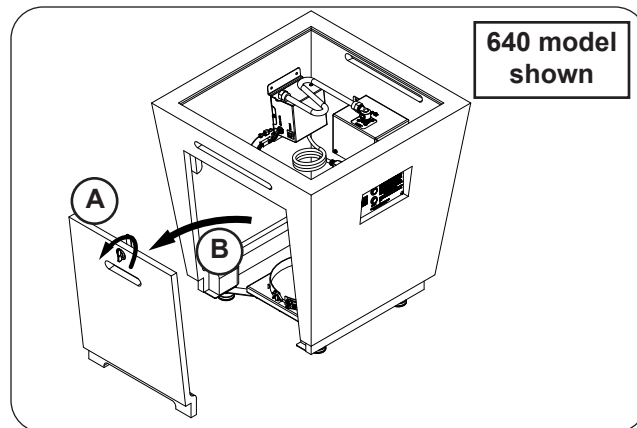

Fig. 28-1 Place base and remove door
1. **Carefully** remove the burner assembly from the base, then **carefully** place the base in an appropriate location (see Fig. 28-1, and refer back to the LOCATION section if needed).
2. Remove the storage door by first turning the door handle counter-clockwise, then carefully pulling the door outward (see Fig. 28-1). Store in a safe location.